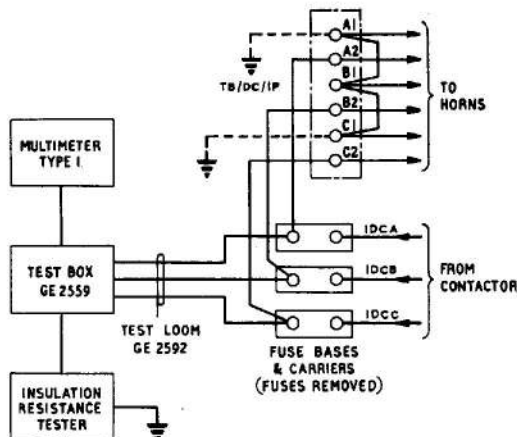

Fig. 3. Elevator horn test connections
Elevator horns (fig. 3)
(1) At the stern break TB/DC/1P, remove the two earth leads from the block as shown in fig. 3, to isolate the mats from earth.
(2) Connect the ohmmeter to the test box GE2559.
(3) Connect the spade terminals of test loom GE2592 to the test box.